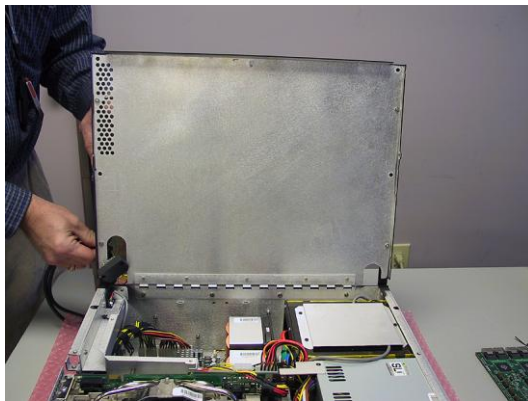

**Figure 4-25**
- 16) Observe that the LCD panel can now be lifted away from the main display assembly (Figures 4-25 and 4-26). However, this step should not be performed just yet, instead proceed to step (18).